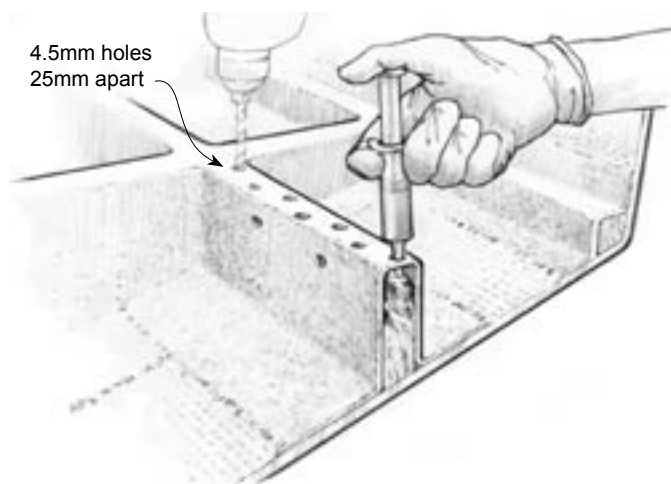

Figure 3-2 Inject or pour resin/hardener mixture into the holes when the core is dry and while the core is warm.
3. Inject or pour a resin/hardener mix into the holes while the core is warm (*Figure3-2*). Epoxy, warmed by the core, will become thinner and penetrate more deeply into the exposed end grain. 206 Slow Hardener will penetrate more deeply than 205 Fast Hardener before it begins to gel.